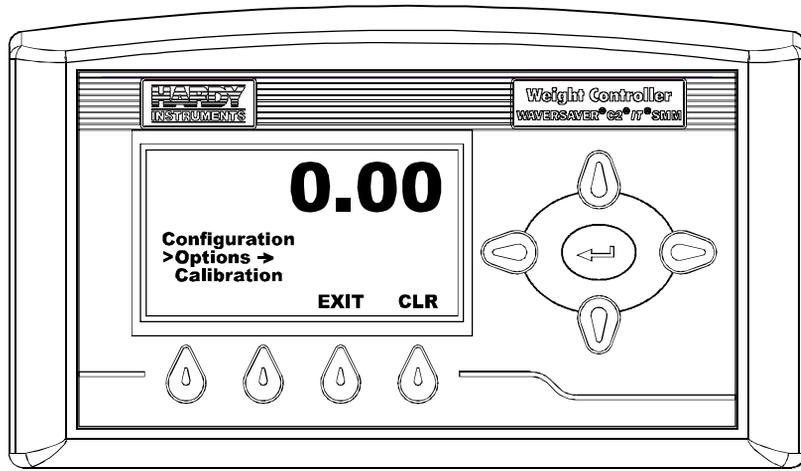

FIG. 116 CONFIGURATION MENU/SELECTING OPTIONS
- Step 2. Press the Down Arrow button until the cursor is in front of Options. (See Fig. 116)